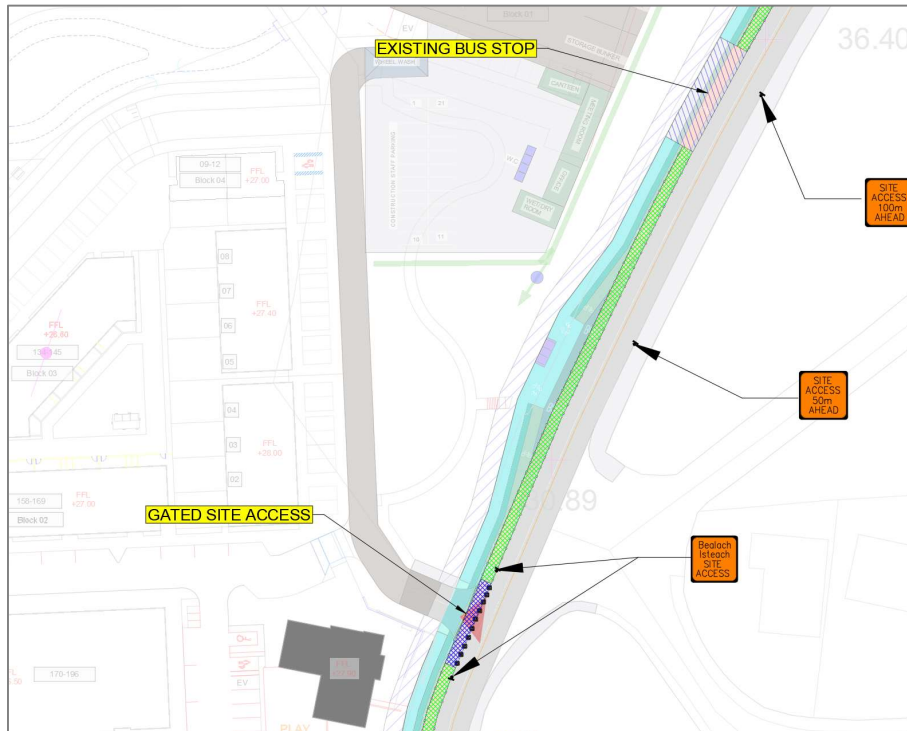

Figure 3.2: Traffic Management Plan at site entrance and public realm works (full details in Appendix A)
**Figure 3.2** below shows the traffic management plan proposed at the site entrance.